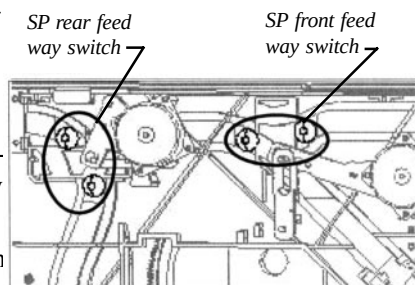

Figure 5-13. Location of the way switches on the front and rear feed stacker presenter.
1. Check that the distance between the white cap and the slide is approximately 0.1 mm. The slide should not look curved. Refer to callout A for the front service stacker presenter and callout B for the rear service stacker presenter in Figure 5-13.